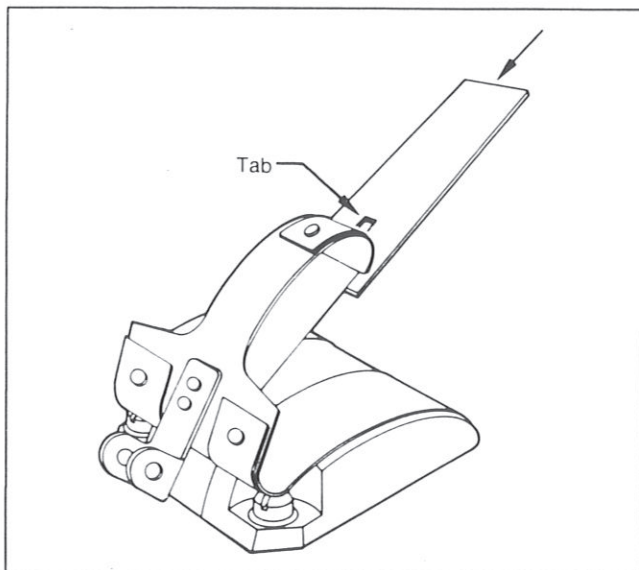
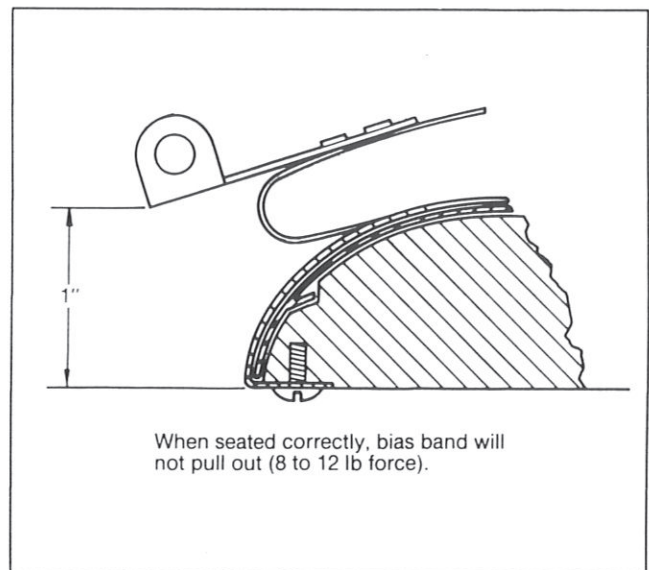

Figure 11
Figure 12
6. Gently force the entire rocker spring forward until the cross section of the rocker spring touches the center band. Insert the bias band under the center band and push it in until it comes in line with the edge of the seal block (reference Figures 11 and 12). The protruding tab of the bias band is designed to fit into a slot in the seal block (reference Figure 12). Make sure the bias band is inserted correctly by checking that the edges are not visible under the center band,
and gaps are not visible under the center band when the rocker spring assembly is in the position (shown in Figure 12). When seated correctly (as shown in Figure 12), the bias band will not come out when being pulled by hand with an approximate force of 8 to 12 lb.